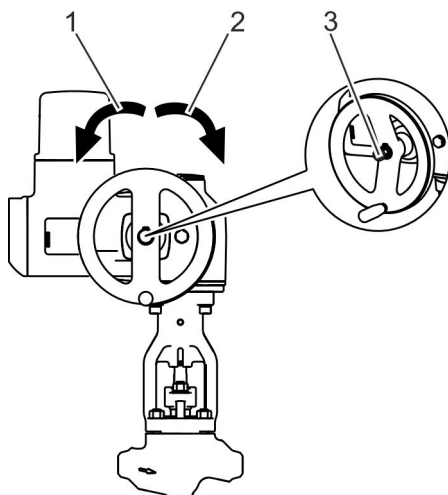

Fig. 24: Electric actuator: Operating the handwheel in an emergency
2. ➤ Couple the handwheel (Fig. 24/3).
- Turning clockwise (Fig. 24/2): Closes the valve.
- Turning anticlockwise (Fig. 24/3): Opens the valve.